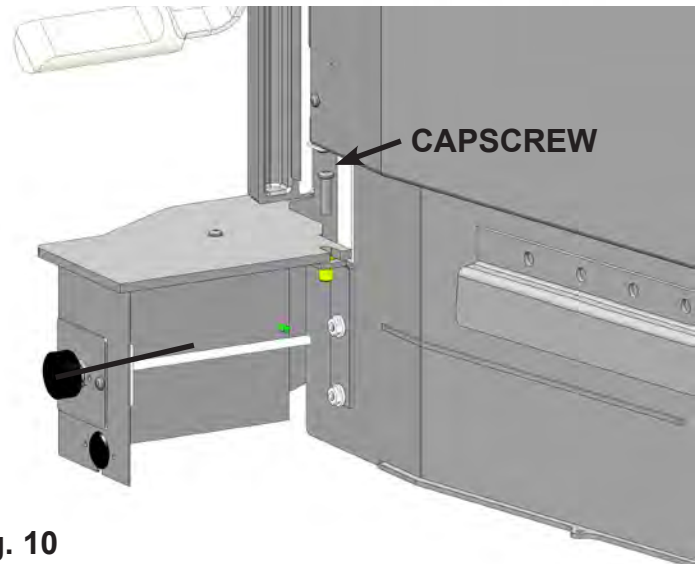

Fig. 10
5. Once lower shroud is aligned, fasten both capscrews with a 5/32" hex key. **(Fig. 10)**